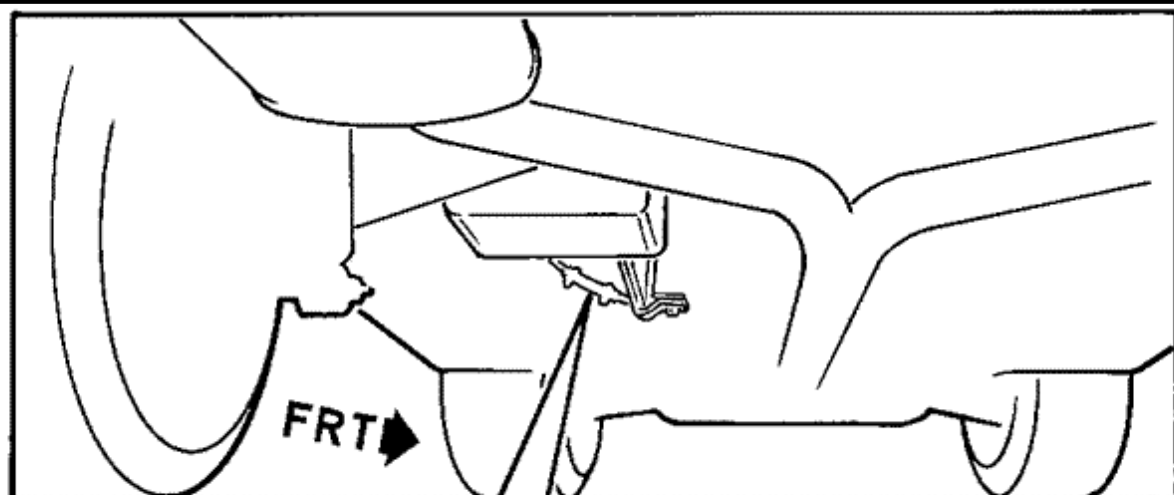

FIGURE 1
2. Referring to Figure 1, locate rubber hose (approximately 2-9/16" long - 65mm) connecting fuel tank evaporative emission pipe to chassis fore-aft evaporative emission pipe.
5. Install two (2) new clamps (P/N 01622744) and new hose (P/N 09442928) onto pipe ends. Insuring hose is positioned an equal distance over both ends. Position clamps onto hose and secure.